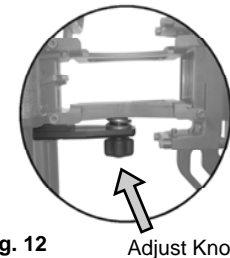

Fig. 12
- Adjust the amount of vertical motion "bounce" you would like in the seat by loosening the knob that holds the spring in position. Moving it towards the client will reduce the bounce and moving it away from the client toward the rear post will increase the bounce. Once this adjustment is done make sure that you tighten the knob to hold it in place. (fig. 12)